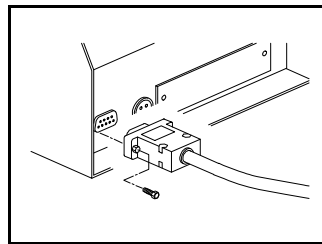

Figure 12
- a. Using the two screws provided, install either end of the data cable to the console. See Figure 12.